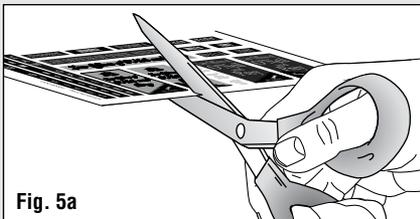

Fig. 5a
- Cut out Decals, leaving a slight edge (Fig. 5a).